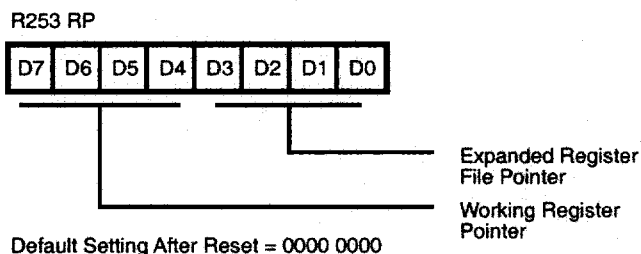

Figure 9. Register Pointer
Bits 3-0 of the Register Pointer (RP) select the active ERF group. Bits 7-4 of register RP select the working register group (Figure 9). For the Z86L03, three system configuration registers reside in the ERF address space Bank F. For the Z86L06, three system configuration registers reside in the ERF address space Bank F. The rest of the Expanded Register File address space is not physically implemented and is open for future expansion.